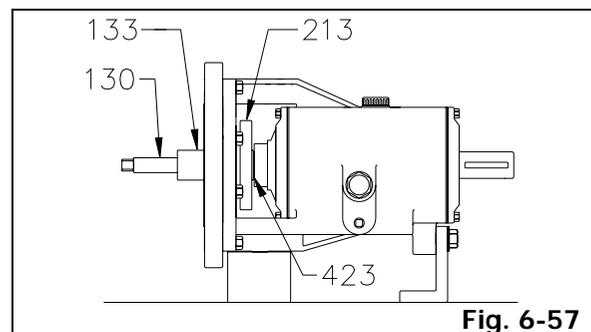

Fig. 6-57
2. Install gland (213), shaft sleeve "O" ring (423) and shaft sleeve (133) to shaft (130). Make certain that shaft sleeve (133) is fully seated on shaft (130) (Fig. 6-57).